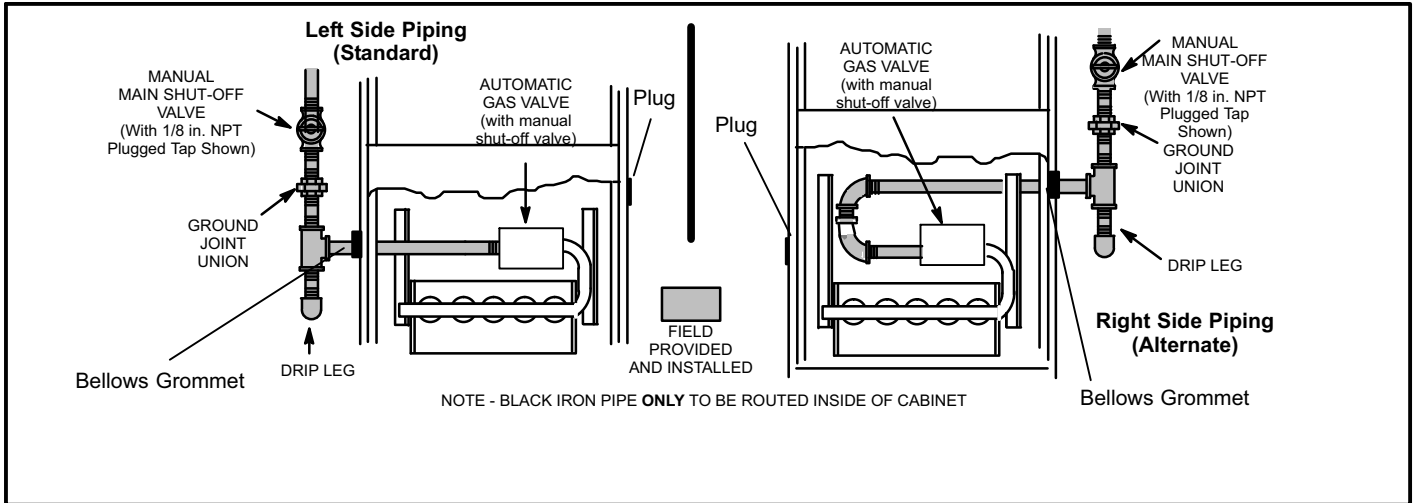

FIGURE 47
- 1 - Gas piping may be routed into the unit through either the left- or right-hand side. Supply piping enters into the gas valve from the side of the valve as shown in figure 47.
- 3 - Gas piping must not run in or through air ducts, clothes chutes, chimneys or gas vents, dumb waiters or elevator shafts. Center gas line through piping hole. Gas line should not touch side of unit. See figures 47.